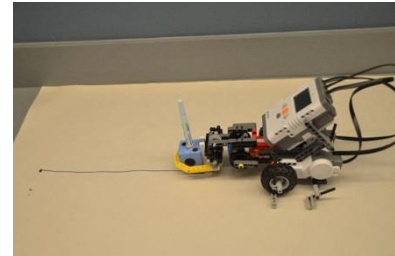

Figure 13
- Drives robot backwards so he/she can see the line as he/she draws it. See Figure 13